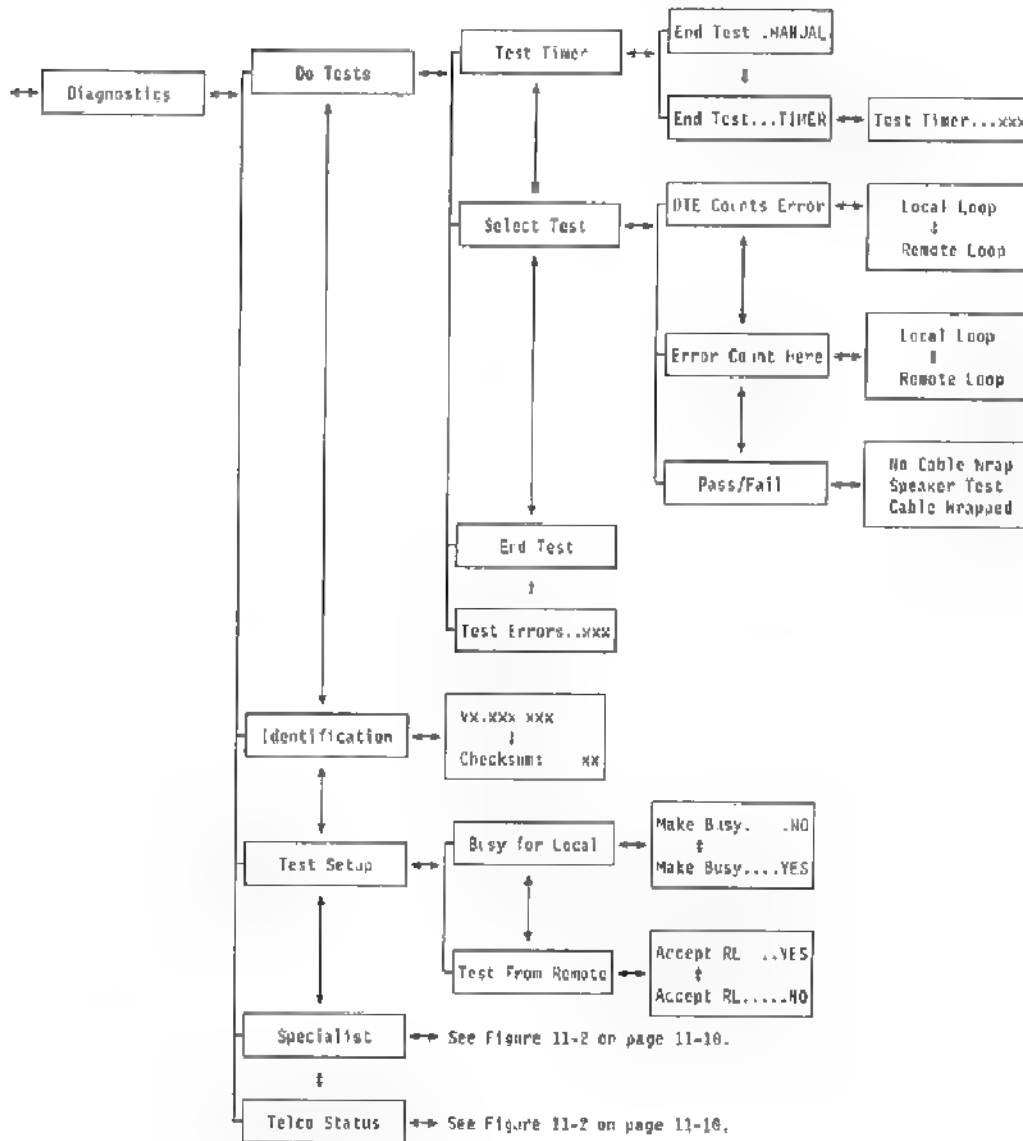

Figure 11-1. Tests and 7855-10 Identification
This chapter describes the diagnostic tests provided by 7855. They are the investigative tools of the process described in Chapter 10, "Problem Determination." Figure 11-1 shows the structure of the front panel diagnostic menu. Other methods for starting and stopping tests are described in the next section.
**Initiation:** The test is started when DTE interface pin 18 is raised and stopped when it is lowered. The test can also be started by pressing the left arrow key when the LCD is displaying Local Loop in the DTE Counts Error section of Select Test, see Figure 11-1 on page 11-1. The modem also enters the test when it receives the &T1 cmdword, see page 12-19.
**Initiation:** This test can be started from the front panel by pressing the left arrow key when the LCD is displaying Local Loop in the Error Count Here section of Select Test, see Figure 11-1 on page 11-1. The modem also enters the test when it receives the &T8 cmdword, see page 12-19.
**Initiation:** This test can be started only if an end-to-end connection exists and only if modem B is configured to allow the test. The front panel can be used to allow the test by pressing the left arrow key on modem B when the LCD is displaying Accept RL...YES in the Test From Remote section of Test Setup. The modem also permits a remote loop test if it receives the &T4 cmdword, see page 12-19. The test starts when the DTE interface pin 21 (RL) is raised and it stops when it is lowered. The test can also be started from the front panel of modem A by pressing the left arrow key when the LCD is displaying Remote Loop in the DTE Counts Error section of Select Test, see Figure 11-1 on page 11-1. The modem also enters the test when it receives the &T6 cmdword, see page 12-19
**Initiation:** This test can be started only if an end-to-end connection exists and only if modem B is configured to allow the test. The front panel can be used to allow the test by pressing the left arrow key on modem B when the LCD is displaying Accept RL...YES in the Test From Remote section of Test Setup. The modem also permits a remote loop test if it receives the &T4 cmdword, see page 12-19. The test can be started from the front panel by pressing the left arrow key on modem A when the LCD is displaying Remote Loop in the Error Count Here section of Select Test, see Figure 11-1 on page 11-1. Modem A also initiates the test when it receives the &T7 cmdword, see page 12-19.